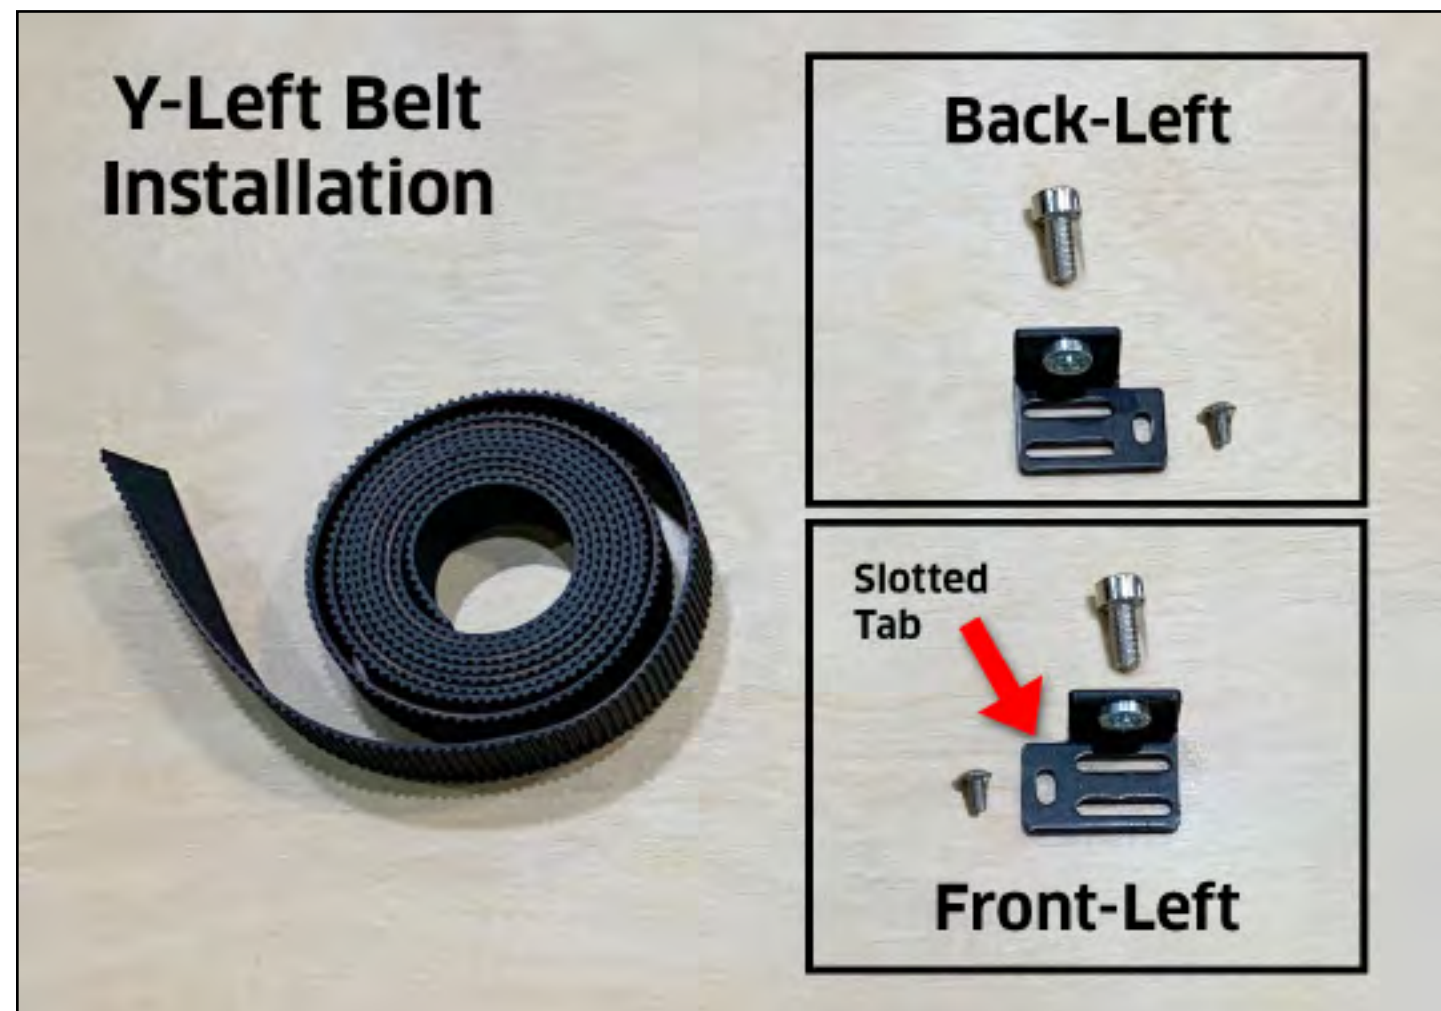

Figure 5-14
Each Y-Axis belt kit includes a pair of belt clips: one which will sit at the front endplate and one which will sit at the back endplate. See **Fig. 5-14**. Each belt clip has a small slotted tab on one side. When positioned correctly, the slotted tab will face to the **INSIDE** of the machine. The M3 screw in the belt kit screws through the small slotted tab and into the top of the rail, preventing the belt clip from twisting when the M5 screw, which secures the belt clip to the endplate, is fully tightened.
1. Insert one end of the belt into the front-left belt clip (the slotted tab will be facing to the **INSIDE** of the machine). See **Fig. 5-14**.